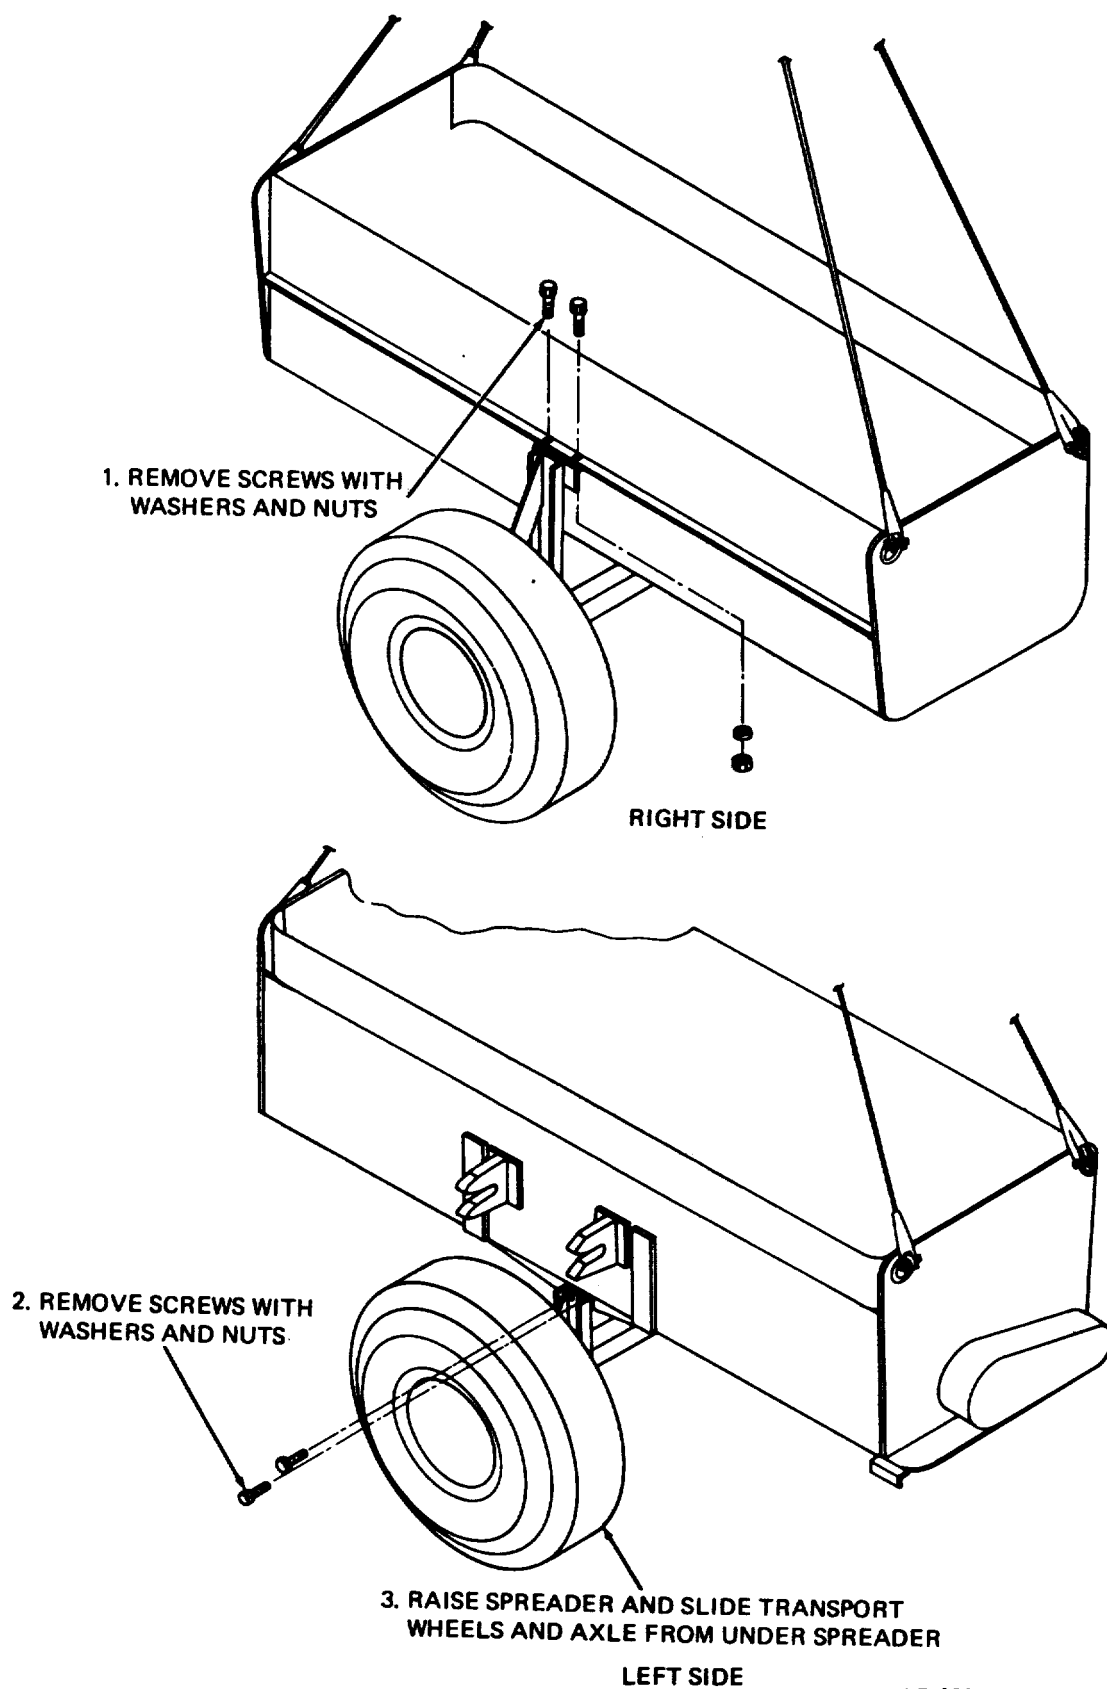

Figure 2-1. Transport wheel assembly removal and installation.
- (1) Remove the operator's platform and all other hardware from the hopper.
- (2) Attach four (4) slings or chains (having a minimum length of ten (10) feet) to the four (4) lifting attachments.
- (3) Using a suitable lifting device (crane loader, wrecker, etc.), raise the spreader one (1) inch off the ground.
- (4) Remove bolts from the right side of the transport wheels assembly support bracket (fig. 2-1).
- (5) Remove bolts from the left side of the transport wheel assembly support bracket.
- (6) Raise spreader to clear the axle of the transport assembly.
- (7) Roll the transport assembly out from under the spreader.
- (8) Lower the spreader to the ground and complete assembly operation.